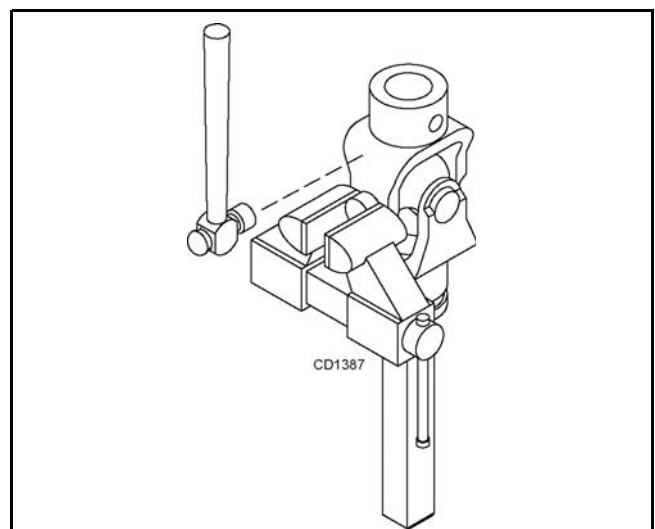

Figure 20.
3. Clamp cup in vise as shown in Figure 20 and tap on yoke to completely remove cup from yoke. Repeat Step 2 and Step 3 for opposite cup.